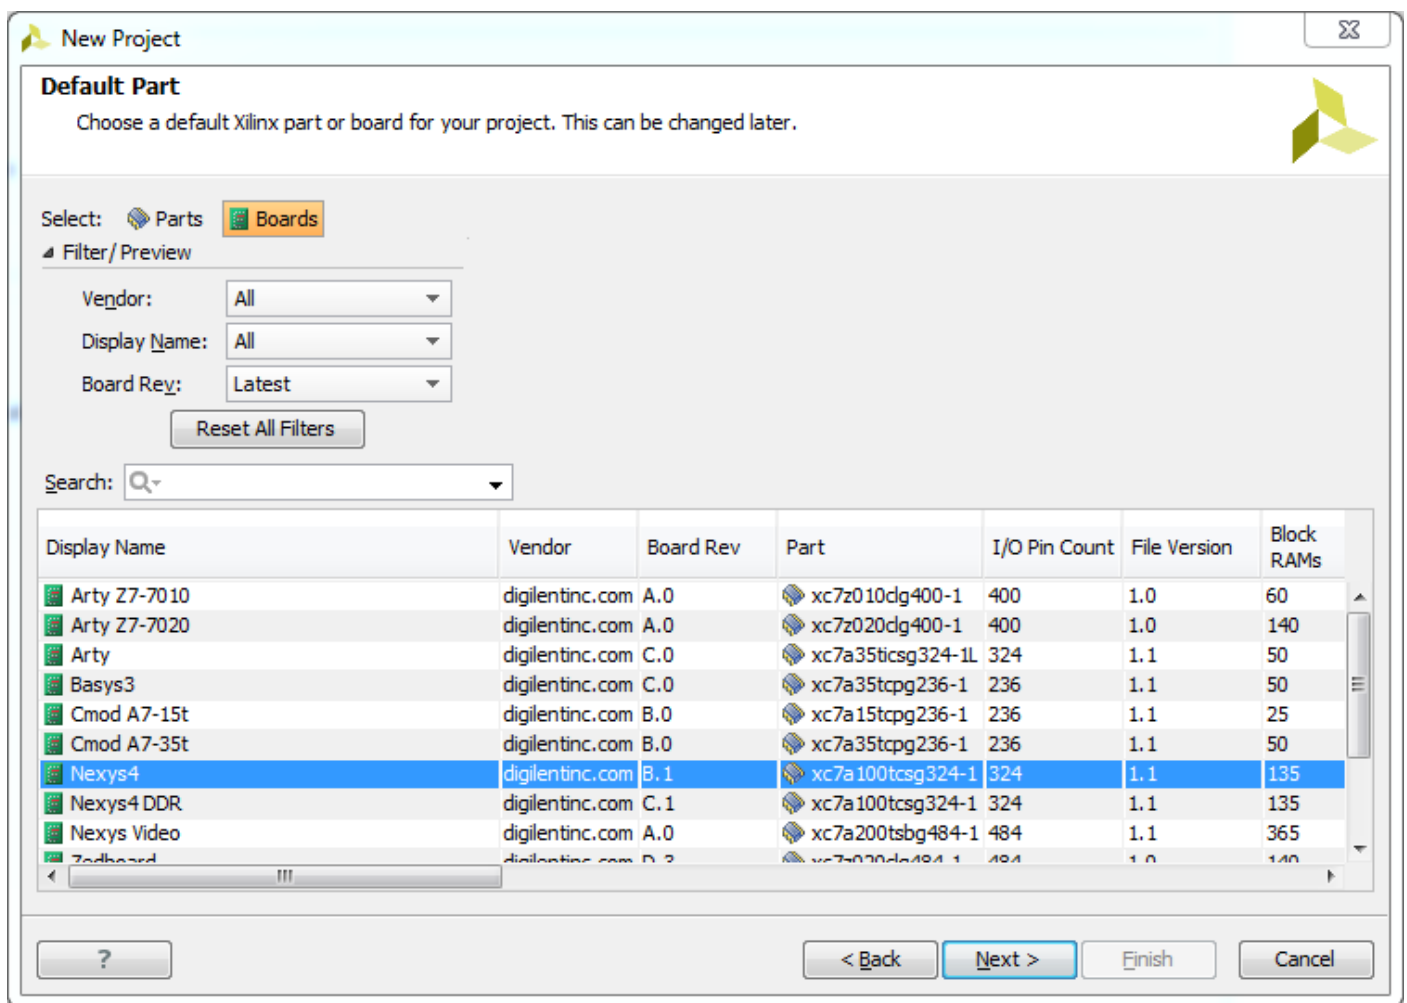

Figure 4: Select the Nexys-4 Board as Target.
7. In the **Default Part** dialog box, select **Boards** and choose **Nexys-4**, see Figure 4. Click **Next**.